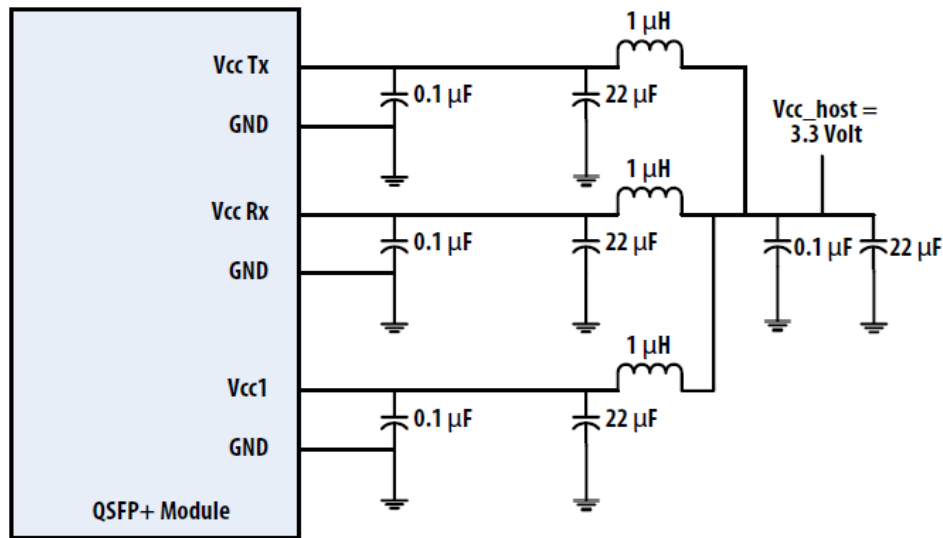

Figure 3. Recommended Power Supply Filter
2. VccRx, Vcc1 and VccTx are the receiving and transmission power suppliers and shall be applied concurrently. Recommended host board power supply filtering is shown in Figure 3 below. Vcc Rx, Vcc1 and Vcc Tx may be internally connected